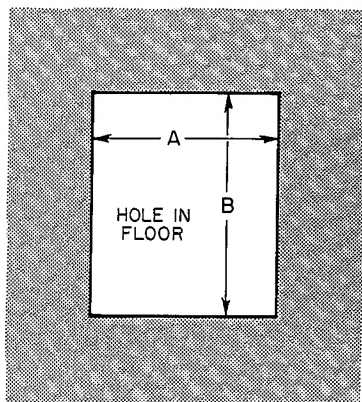

Fig. 3—Floor Opening for Concrete Slab
2. Construct hole in floor per dimensions in Fig. 3 and Table 4.